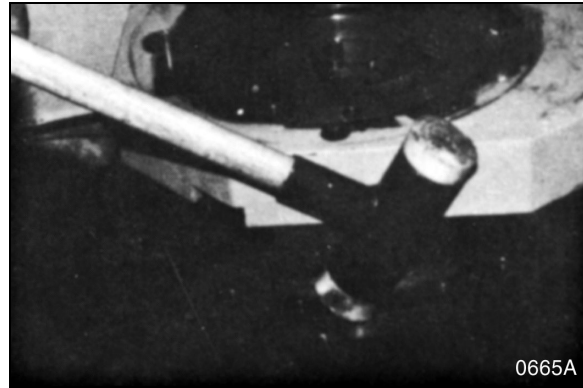

Figure 49
NOTE: *Figure 49 shows an alternate method for breaking down the assembly, using a flat, thick aluminum bar on top of the coupling gear (8, Figure 13) to evenly distribute the force of hammer blows to the coupling gear (8) to separate the hub (1), inner ring gear (5) and coupling gear (8) from the spindle (2).*